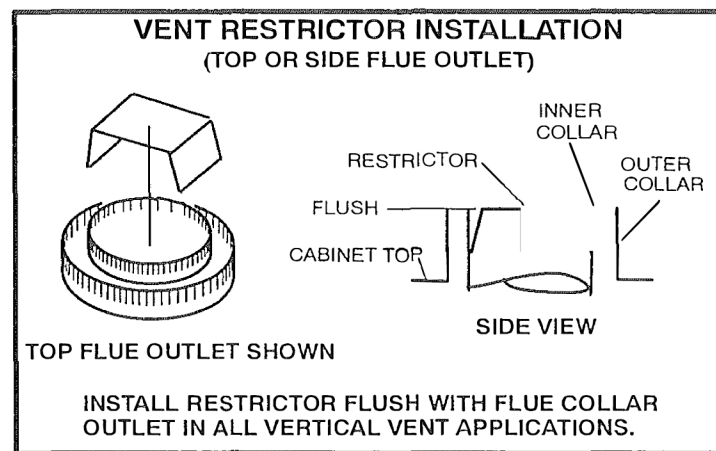

FIGURE 11
- 1 – Install a vent restrictor (provided) in the flue outlet. See figure 11.